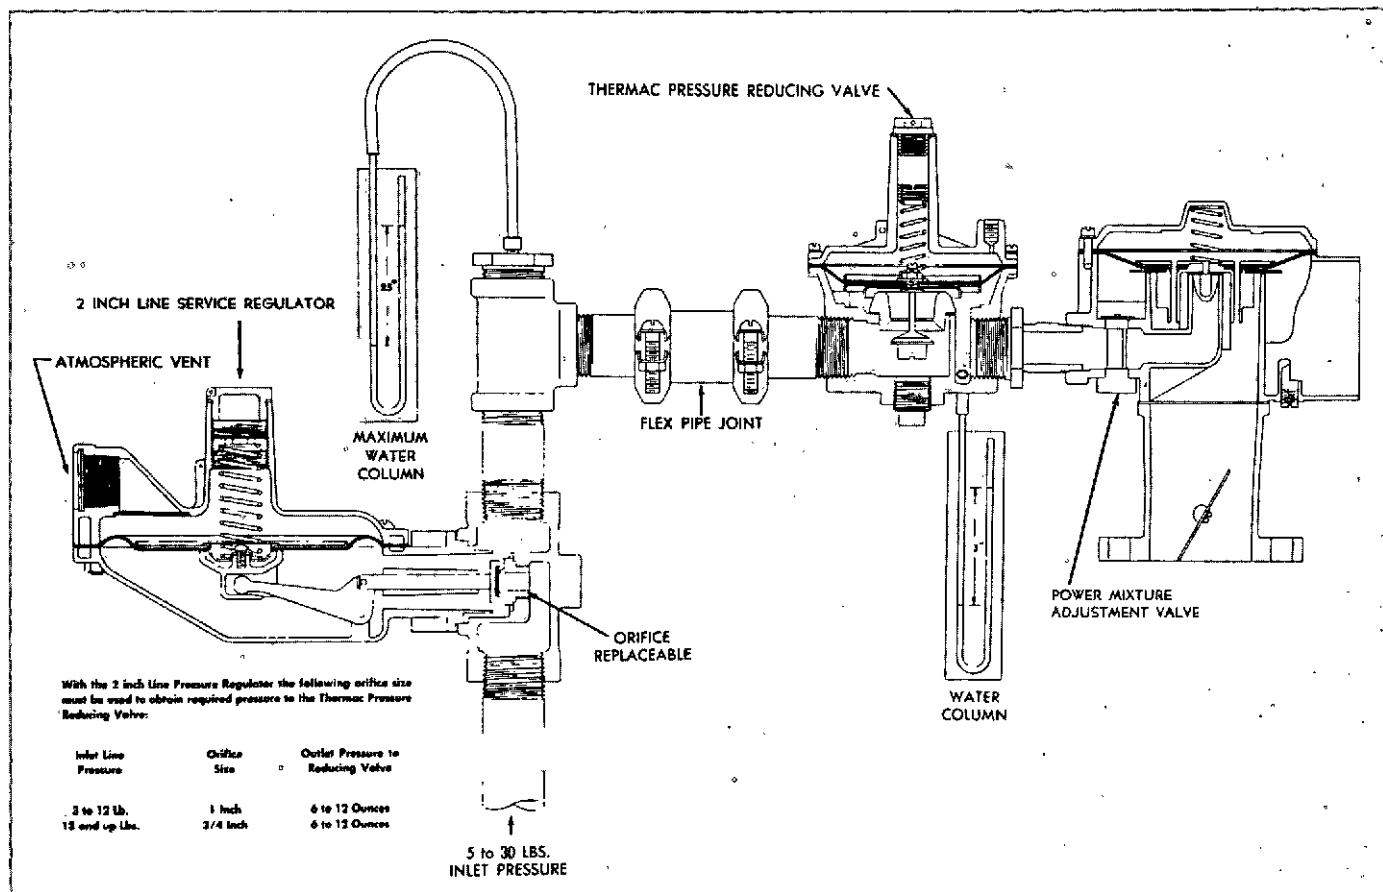

Fig. 14-2-8, NG1. Diagram showing pressure check points
4. Remove pipe plug and attach a pressure gauge (water manometer) between the main line passage regulator and the "Thermac" pressure reduction valve. Also remove the pipe plug and attach a pressure gauge (water manometer) on the "Thermac" pressure reduction valve. See Fig. 14-2-8.